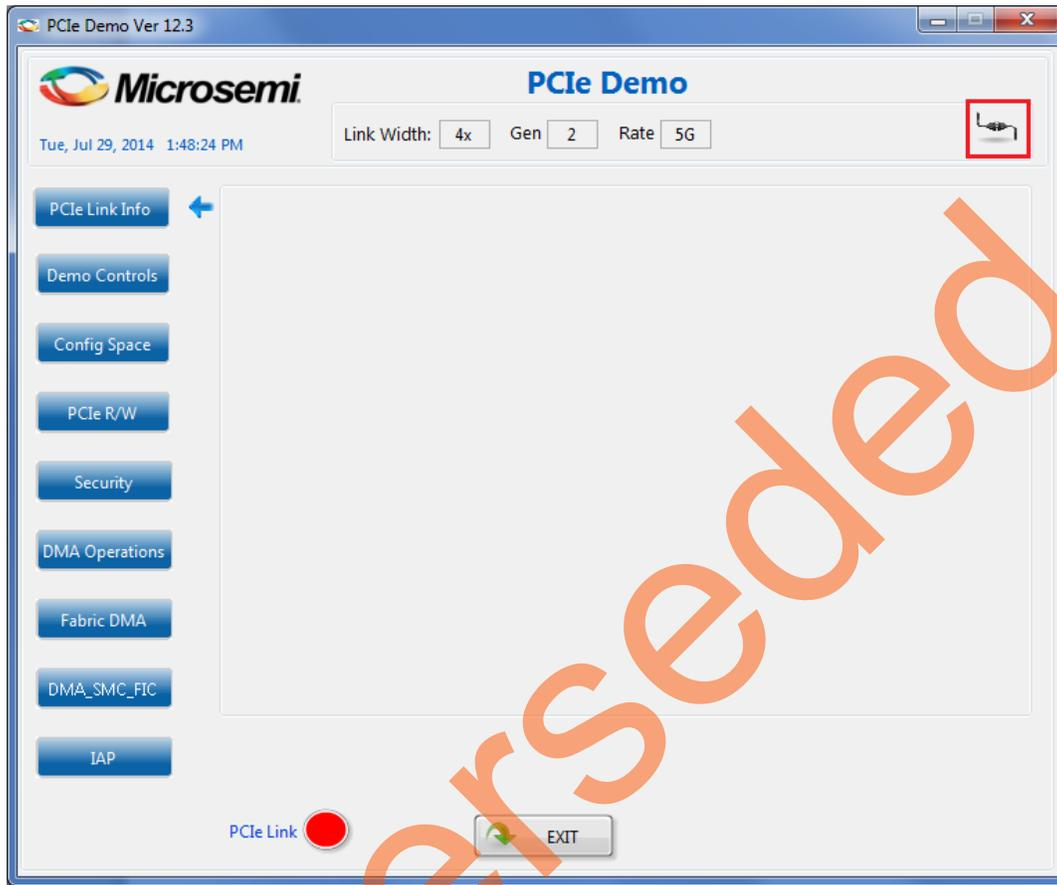
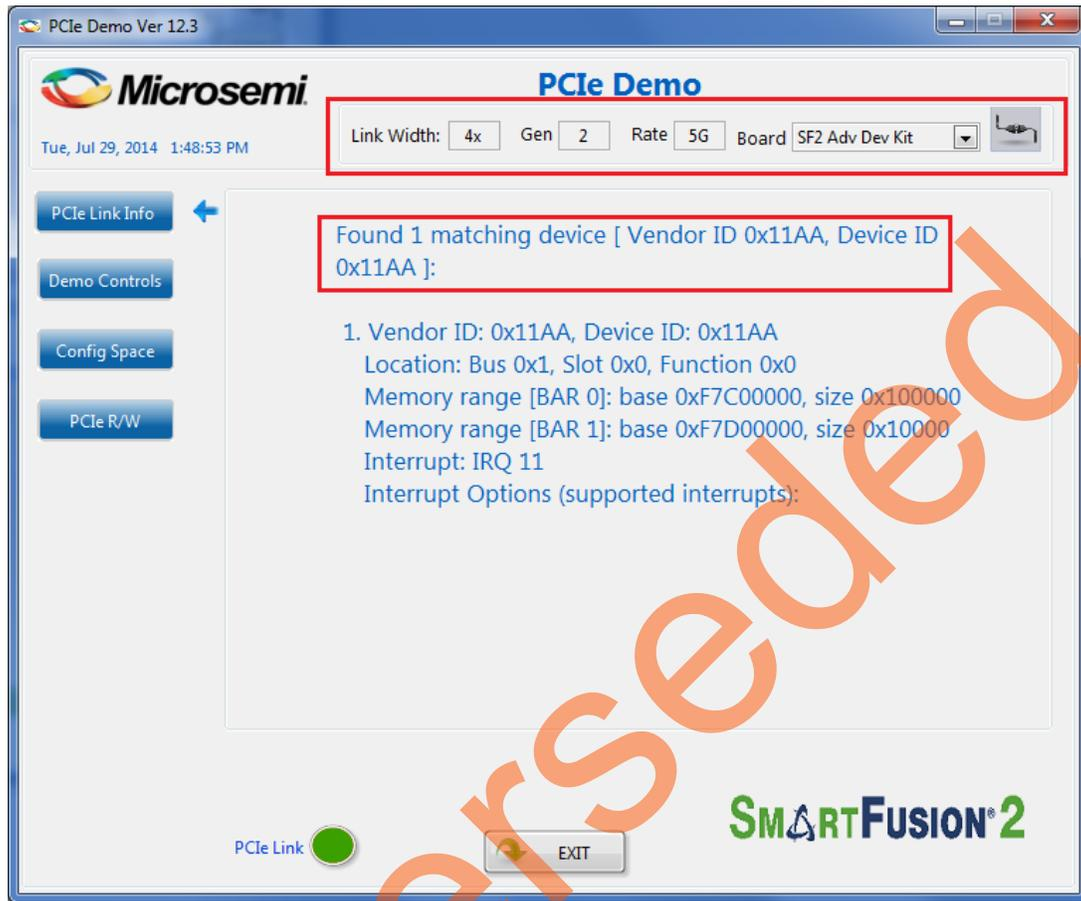

Figure 19 • PCIe Demo GUI
Figure 20 • Version Information
3. Invoke the GUI from **ALL Programs > PCIeDemo > PCIe Demo GUI**. Figure 19 shows the **PCIe Demo GUI** window.
4. Click **Connect** icon highlighted in Figure 19. The Link Width, Gen, Rate, and Type of Kit are displayed on the GUI as shown in Figure 20 on page 24.